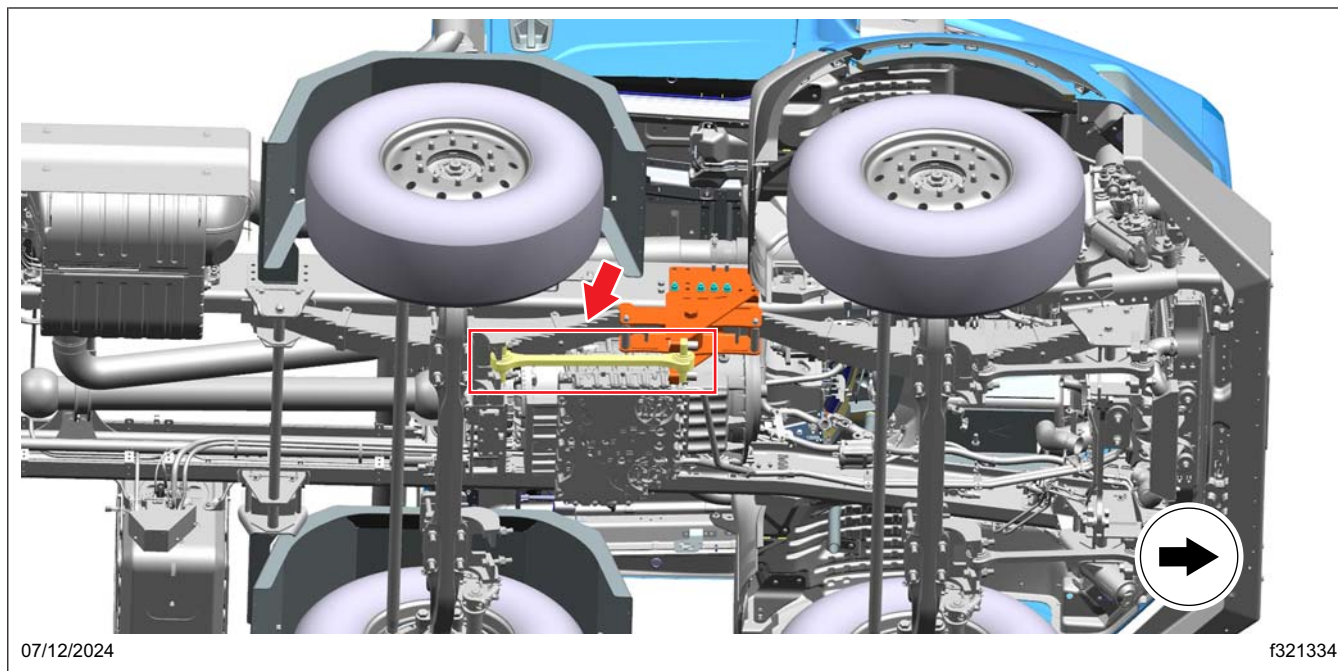

Fig. 15, Right-Hand Side Torque Rod
5. Remove the torque rod from the mid-suspension hanger. See Fig. 15.